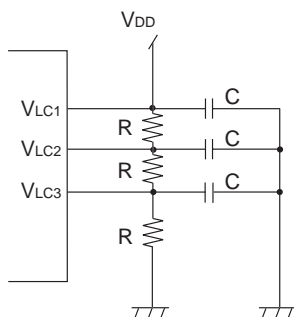

Figure:16.3.3 Supplying Voltage to V_{LC1} to V_{LC3}
2. The LCD power supply V_{LC1} to V_{LC3} is supplied as shown in the following Figure:16.3.3. V_{LCD} value varies depending on the type of LCD. Refer to the specifications of LCD for the appropriate value.
In Figure:16.3.3, a bypass capacitor C (0.01 mF to 0.1 mF) is used to lower the impedance of power supply.